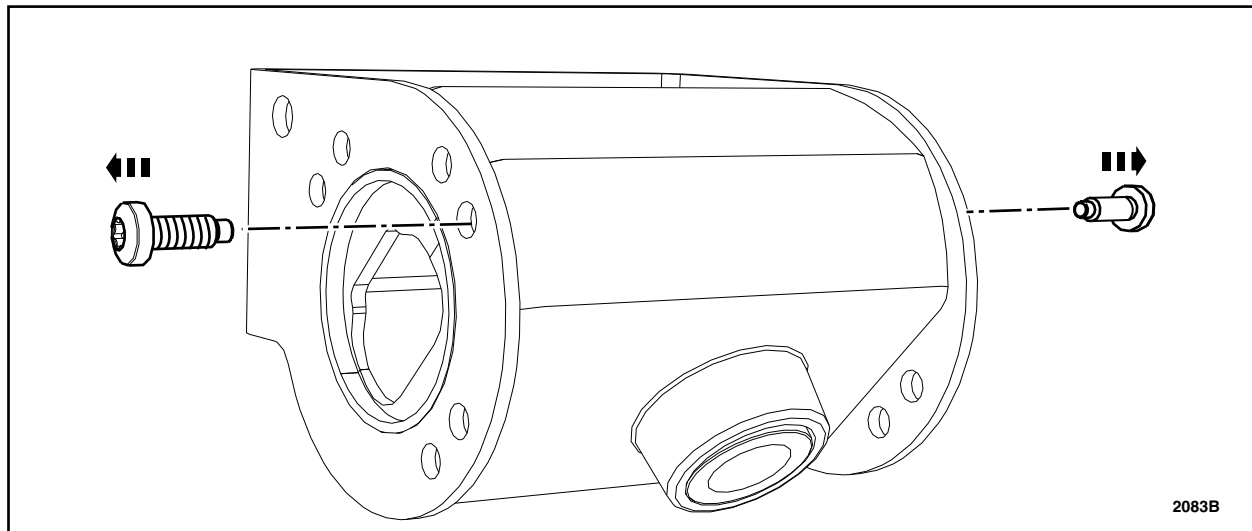

FIGURE 15
2. Make note of the fastener location on the camera bracket and remove the two (2) short camera to bracket fasteners (one on each side) and remove the camera assembly from the bracket. See Figure 15.
6. Position the camera and housing assembly into the mounting bracket. Rotate the camera until it aligns with the original alignment slots (noted before removal). Install a short screw on both sides to secure the camera in this position on the mounting bracket. See Figure 15.